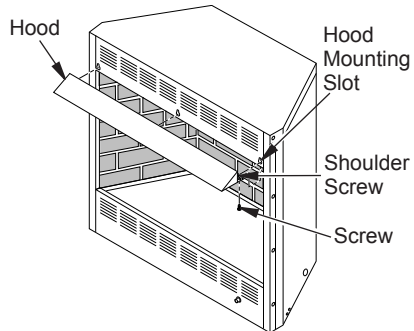

Figure 13 - Installing Fireplace Hood
3. Hold hood in place. Insert 2 black Phillips screws through bottom of hood and tighten. See Figure 13.